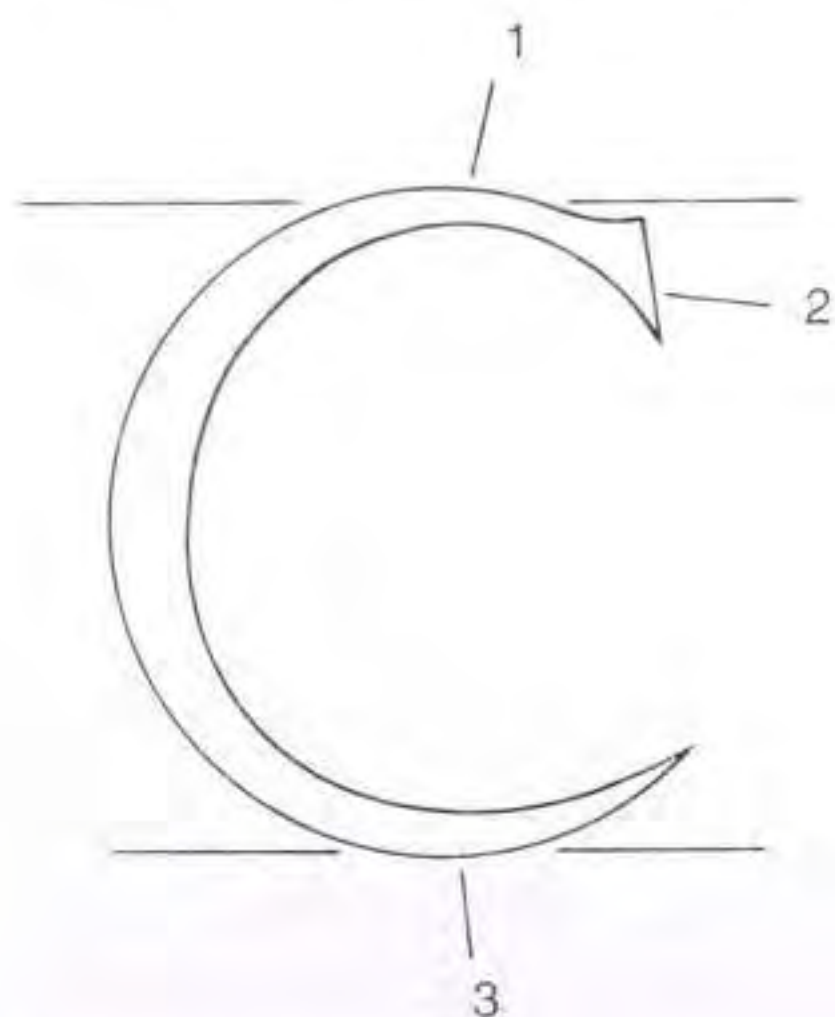

Fig 6.4 Features of the letter C.
See Fig 6.4. This letter should be extended slightly *above* the cap line and below the base line (1). Its width is about one unit (i.e. a little narrower than O).